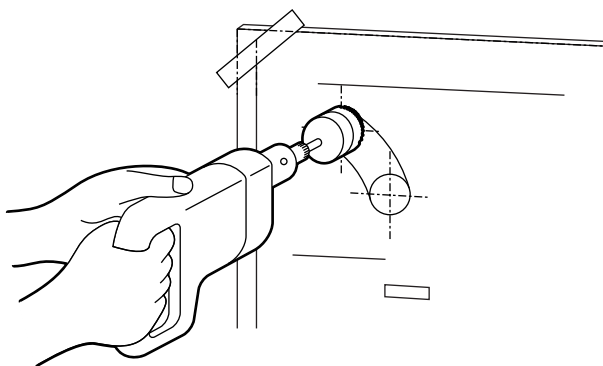
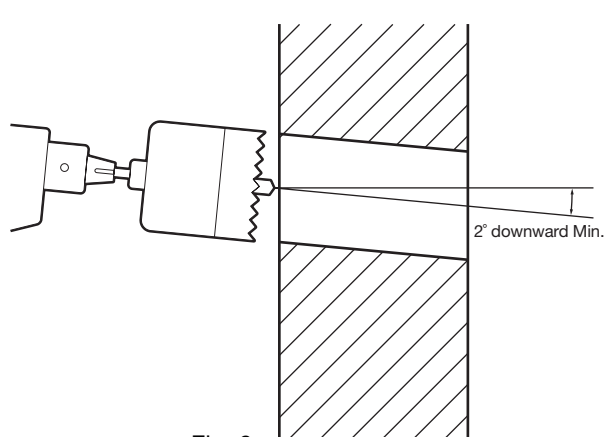

Fig. 5
Fig. 6
4. Cut the hole for the flue pipe from inside the room. Use a 2-3/4 to 3" diameter hole saw attached to an electric drill (See Fig. 5). The opening on the inside wall should be slightly higher than the outside opening (approximately 1/4") so that the flue pipe will slope slightly downward (approximately 2 degrees) after it is installed (See Fig. 6). This will enable the draining of condensed moisture from the flue pipe to the outside and prevent rain or snow entering from outside after installation.